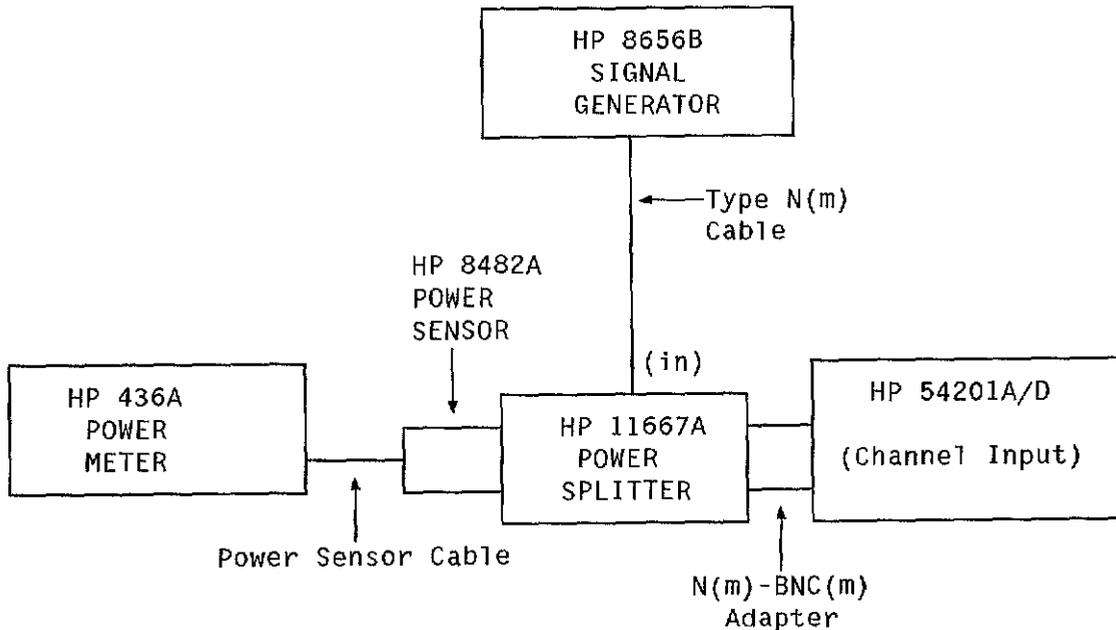

Figure 3-7. Bandwidth Test Connections.
2. Configure test equipment as shown in figure 3-7.